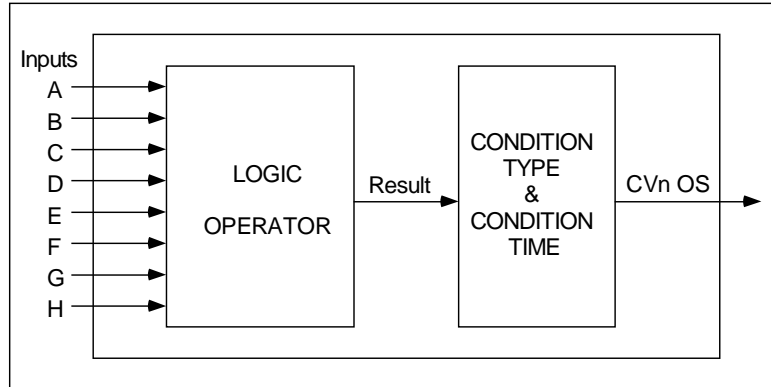

Figure 4-6 Logic Signal Flow
The input or inputs are processed by a logic operator. Call the result of this logic operation “Result”. Result is a pulse that goes ON(1) when the logic is true, and OFF(0) when the logic is not true. Result is then processed according to the specified condition type and condition time. The final output is a discrete pulse CVn OS. See Figure 4-6.